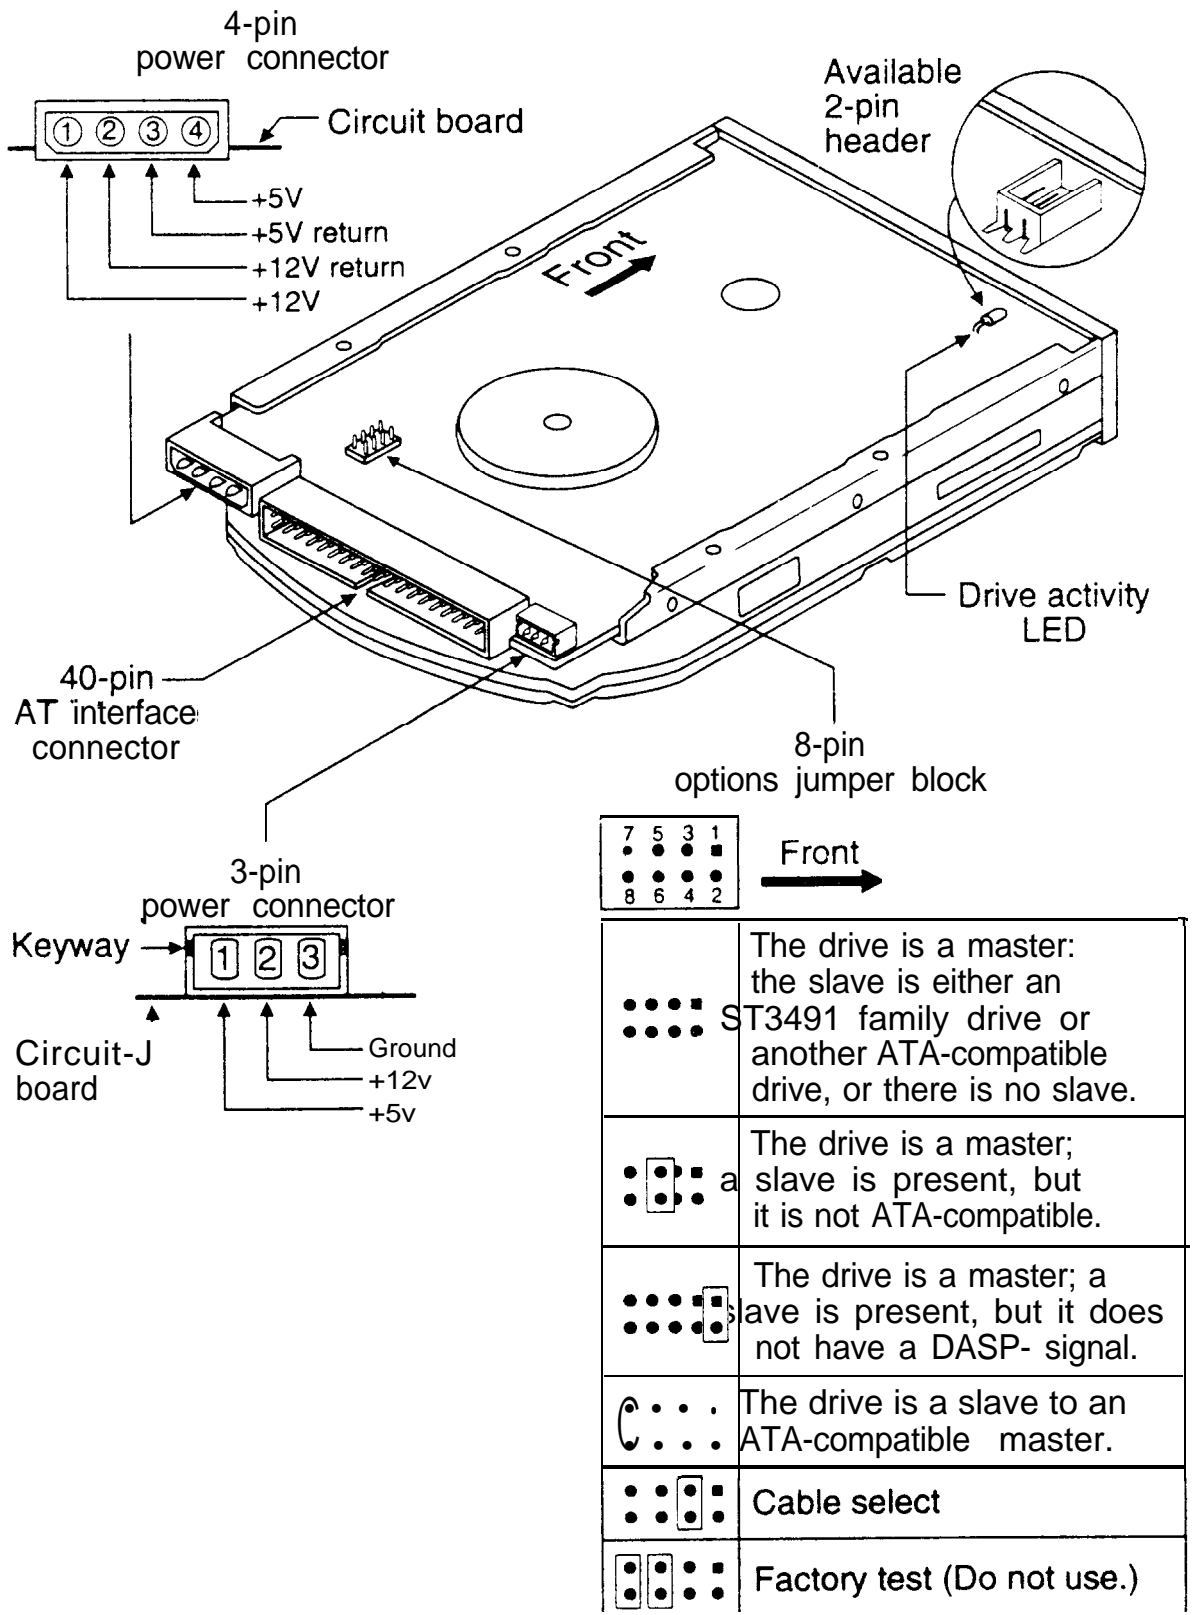

Figure 1. Jumpers and connectors
5. **Install master/slave jumpers.** The master/slave jumper block, shown in Figure 1 on page 4, accepts 2-mm connectors and jumpers. Use Seagate part number 1321 I-001 or equivalent.
One-drive system: Configure the drive for a one-drive system as shown in Figure 1.
- When using a standard ATA interface cable (that is, you are not using cable select): configure the drive as a master or a slave using the options jumper block as shown in Figure 1 on page 4.
Refer to Figure 1 on page 4 for the locations of the connectors.